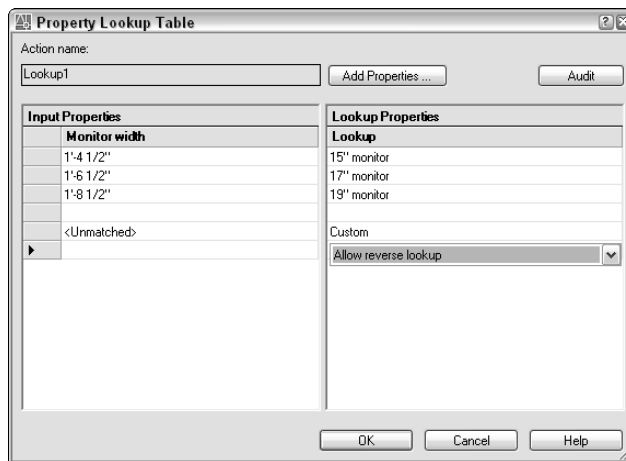

**Figure 18-25:** The Property Lookup Table dialog box is ready to create a lookup table for the computer monitor.
19. Click the **Read Only** cell and choose **Allow reverse lookup** from the drop-down list. The **Property Lookup Table** dialog box should look like Figure 18-25. Click **OK**.